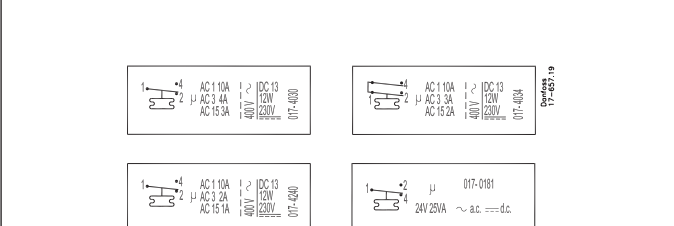

Fig. 7
Contact load: See switch cover or fig. 7. The marking, e.g. 10 (4) A, 400 V ~ AC means that max. connection current is 10 A ohmic and 4 A inductive at 400 V ~ AC. The max. starting current on motor cutin (L.R.) may be up to seven times the inductive load – but max. 28 A.
Kontaktbelastning: Se kontaktdækslet eller fig. 7.